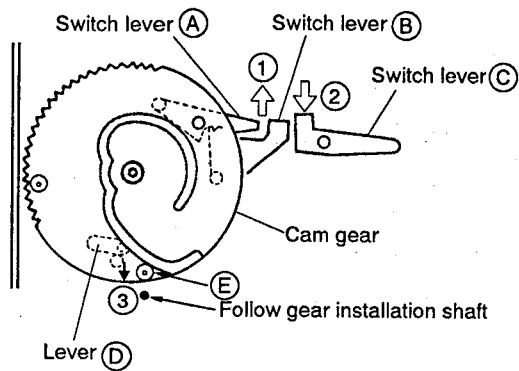

Fig. 11
- ② Move switch levers (A) and (B) (Fig.11) in the direction of arrow ① (SW is ON), switch lever (C) in the direction of arrow ② and lever (D) in the direction of arrow ③.
- ② Install the cam gear when the cam gear comes to the position as shown in Fig. 11.